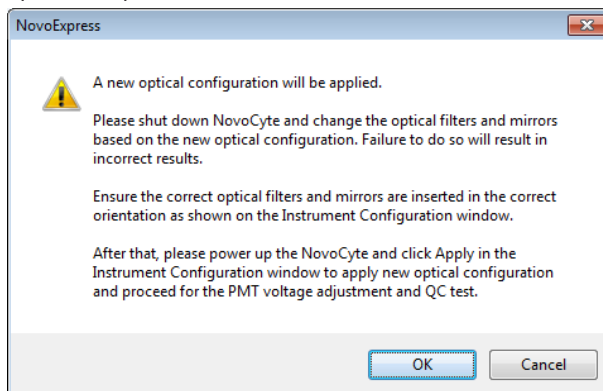

Figure 2-4 Dialog Box for Instructions on Properly Applying New Optical Configurations
- 4 Ensure to read the instructions from the prompted window as shown in Figure 2-4. To change the optical filters, press the power button on the front panel of NovoCyte to turn off the instrument first. Insert the NovoCyte key into the keyhole on the left side of the instrument to open the top cover of the instrument.